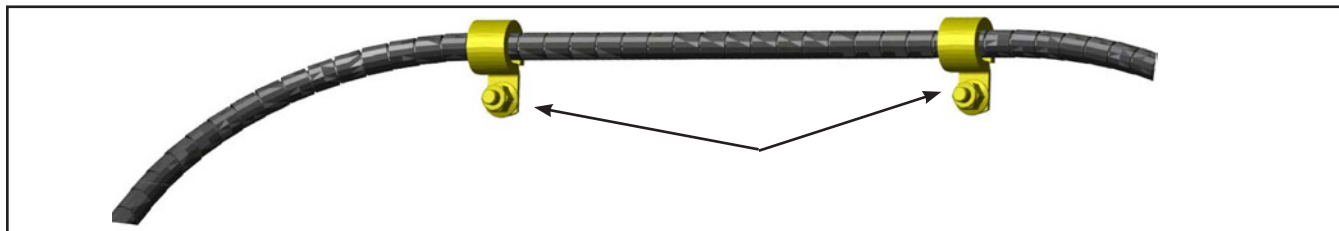

Figure 2 - P-clamps Air Line Assembly
- 1.3. Remove the air line assembly hose P-clamps. Retain the hardware. See Figure 2.